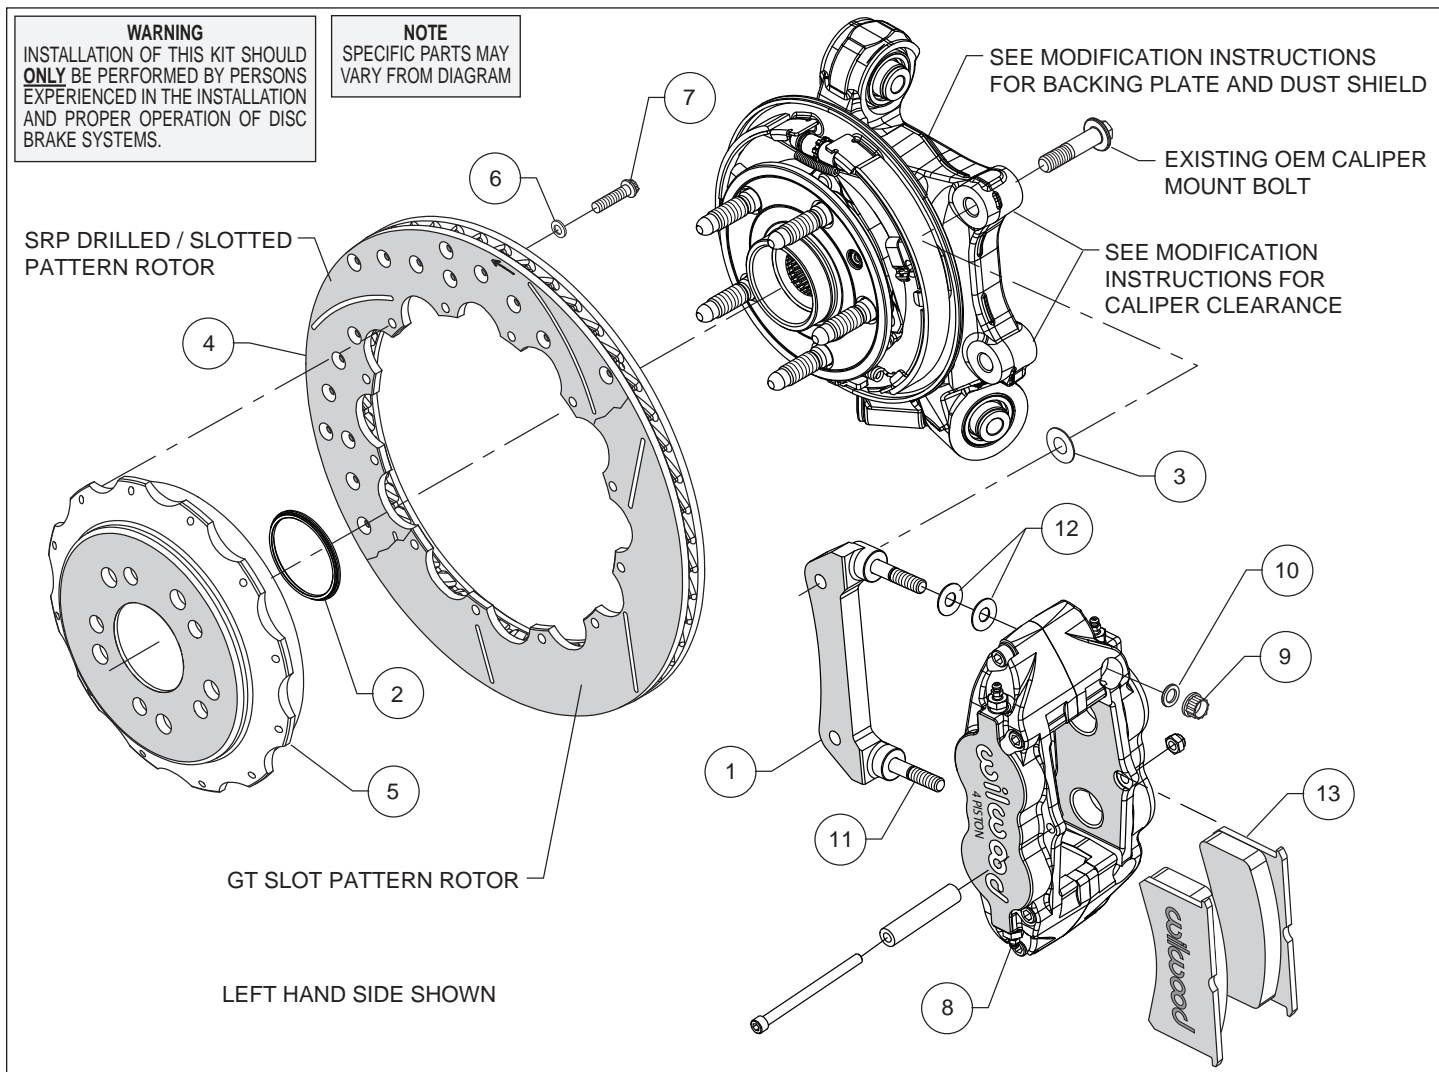
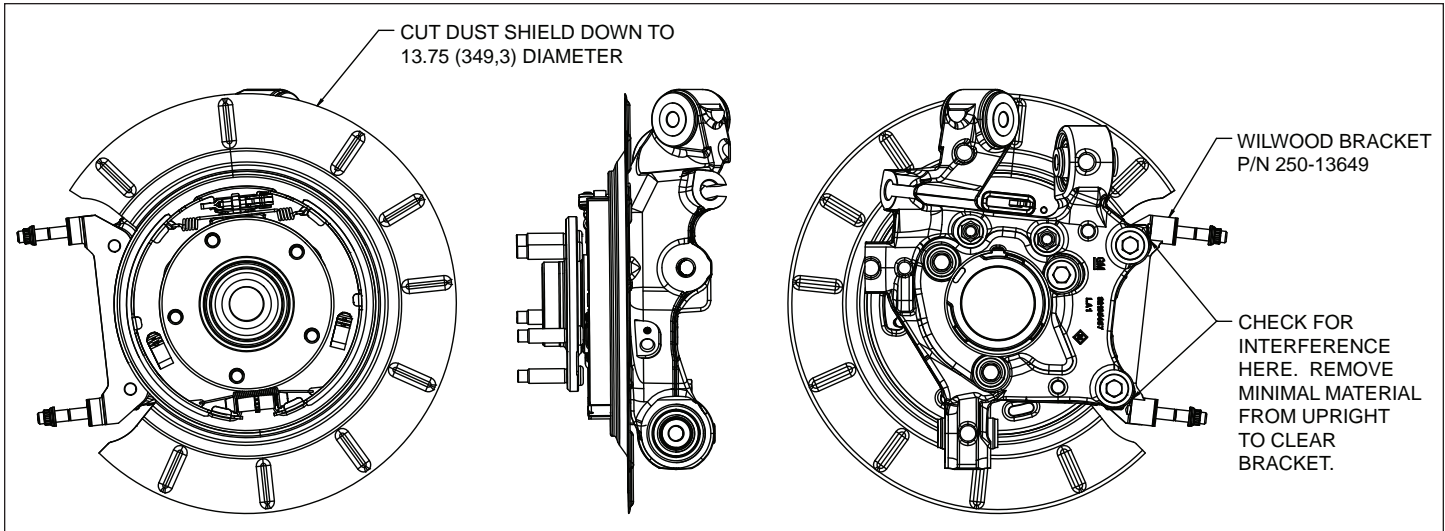
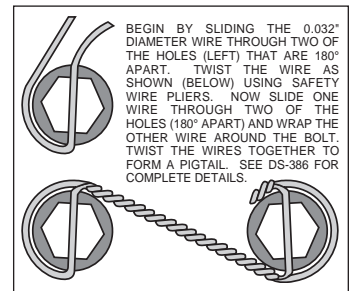

Figure 1. Typical Installation Configuration
Figure 3. Backing Plate / Dust Shield / Caliper Mounting Tabs Modifications
Figure 4. Safety Wire Diagram
- The rear backing plate/dust shield and OE caliper mounting tabs needs to be modified as shown in Figure 3 to clear the new Wilwood rotor and caliper mounting bracket (1). **NOTE:** It is recommended that the backing plate be removed before modification, and the modifications be performed by a qualified machine shop. After backing plate removal, cut the dust shield to 13.75" diameter as shown in Figure 3. Temporarily mount the caliper mounting bracket as shown in Figures 1 and 3. Figure 3, Examine the fit of the bracket against the OE caliper mounting tabs and remove just enough material so that the bracket mounts flush.
Assembly Instructions (numbers in parenthesis refer to the parts list and Figure 1 on the preceding pages):
- The caliper mount bracket (1) should initially be installed with clean, dry threads on the mounting bolts. Orient the bracket as shown in Figure 1, and install using OEM caliper mount bolts. Initially place one .033" thick shim (3), on each bolt between the bracket and upright, Figure 1. Temporarily tighten the mounting bolts. **NOTE:** The bracket must fit squarely against the mount bosses on the upright. Inspect for interference from casting irregularities, machining ridges, burrs, etc. Later, after the caliper alignment has been checked, the mount bolts will be secured using red *Loctite*® 271.
- Orient the rotor (4) and the hat (5) as shown in Figure 1 and Photo 1. Attach rotor to hat using bolts (7) and washers (6). Using an alternating sequence, apply red *Loctite*® 271 to the threads and torque bolts to 140 **in-lb**. For an added measure of security, the bolts may be safety wired using standard 0.032 inch diameter stainless steel safety wire as shown in Figure 4. Please refer to Wilwood's data sheet DS-386 (available at www.wilwood.com/Pdf/DataSheets/ds386.pdf) for complete safety wire installation instructions.
- Slide the rotor registration adapter (2) onto the axle register on the axle hub with the smaller O.D. facing outward, Photo 2. Align the correct hole pattern in the hat with the stud pattern on the axle hub and slide into place, Figure 1. **NOTE:** The hat must fit flush against the axle hub flange or excessive rotor run out may result. Install three lug nuts (finger tight) to keep the hat/rotor assembly in place while continuing with the installation.
- Lubricate the caliper mounting studs (11) with lightweight oil. Initially place two .035" thick shims (12) on each stud as shown in Figure 1 and Photo 3. Mount the caliper (8) onto the bracket (1) using lock nuts (9) and washers (10), Figure 1. Temporarily tighten the lock nuts and view the rotor through the top opening of the caliper. The rotor should be centered in the caliper, Photo 4. If not, adjust by adding or subtracting shims (3) between the bracket and the upright. Once the caliper alignment is correct, remove the bracket mounting bolts one at a time, apply red *Loctite*® 271 to the threads, and torque to 65 ft-lb.